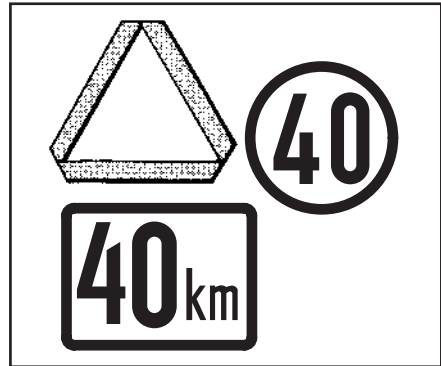

Fig. 2.22
- Make sure that the tractor and any other implements have slow moving vehicle symbols or a rotating light, if provided for by law (Fig. 2.22).